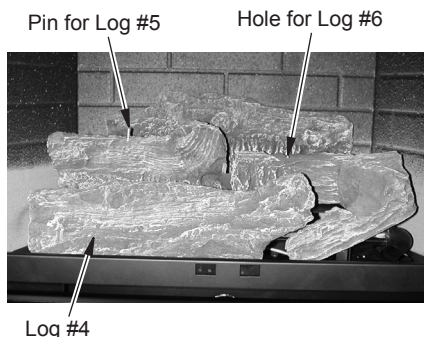

Figure 14 - Installing Log #4
4. Install pins on log #4 onto the two slots in the front bracket (see Figure 13 and Figure 14, page 17).
5. Insert the recessed hole on the bottom of log #5 onto the pin on log #2 (see Figures 14 and 15, page 17).
6. Insert the pin on log #6 into the hole on log #3 (see Figures 14 and 15, page 17).